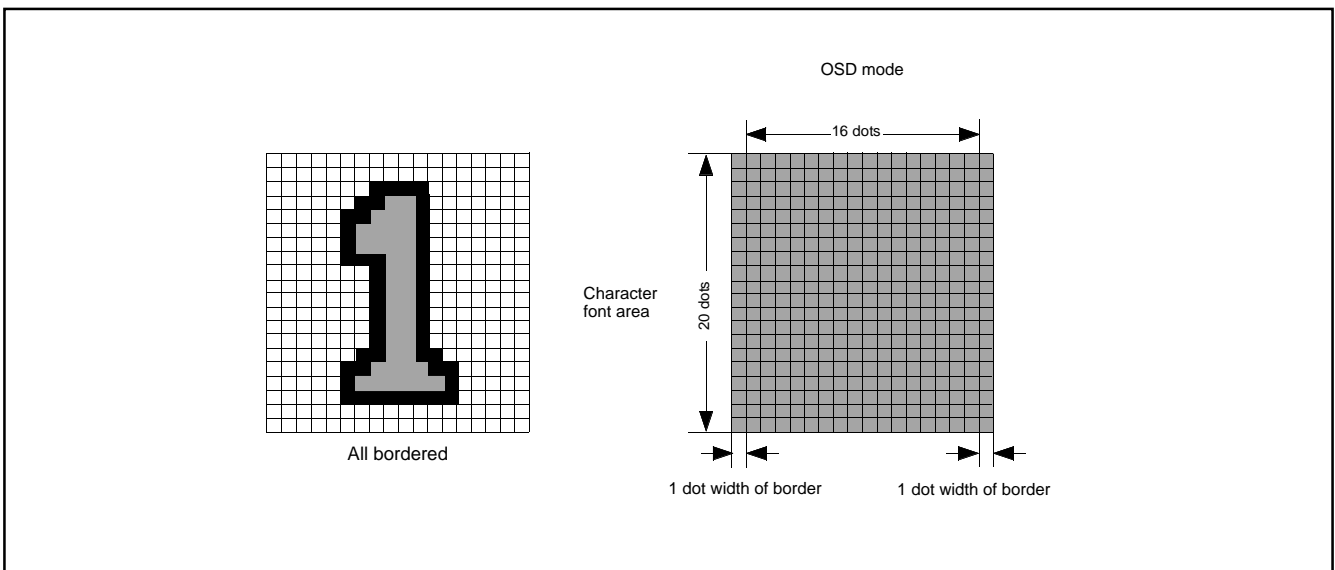

Fig. 8.11.21 Example of Border Display
**Notes 1 :** The border dot area is the shaded area as shown in Figure 8.11.21.